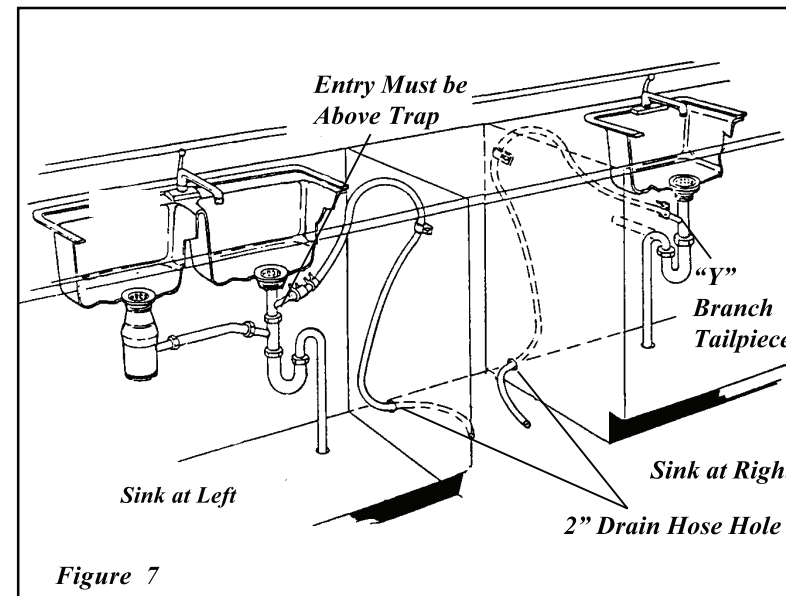

Figure 7
1. Review **Figures 7, 8** and **9** to see the different ways to connect dishwasher to drain system. Choose method that best suits your need.
2. If you connect to a sink drain, entry will need to be above trap. A "Y" branch tailpiece and connector kit, not included, will make this method easier and includes all needed fittings and instructions. **See Figure 7.**